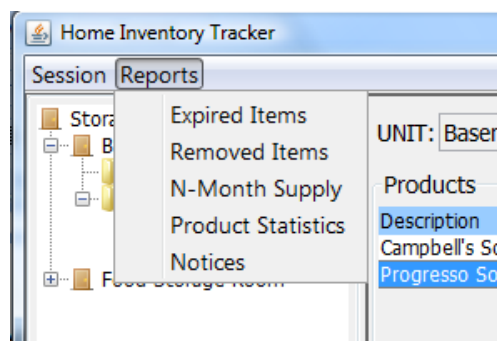

Figure 8 - Reports Menu
- 2) The Reports Menu (Figure 8) allows the user to print a number of different reports, as follows: